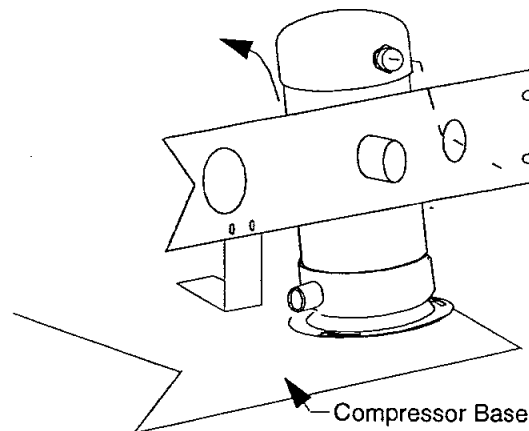

Figure 4-2: Removing the Adsorber from the Compressor
9. Carefully lift the adsorber inward until the outlet self-sealing coupling clears the rear panel and remove the adsorber as shown in Figure 4-2.
10. Remove the adsorber from the compressor as shown in Figure 4-2.